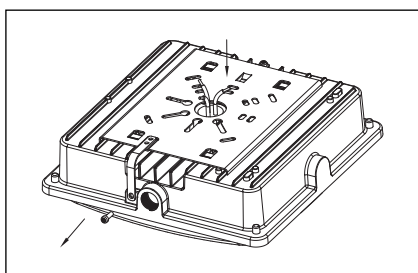

Figure 1
1. Loosen the screw on the side of the housing and pull out the connecting plate. (Figure 1)